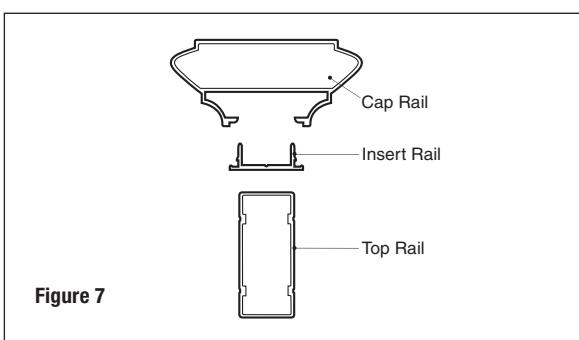

Figure 7
**Step 13 (optional)** Cut the cap rail and cap rail insert to length. (Note: the cap rail will be 1/2" longer than the top and bottom rails.) Center the cap rail insert on top of the top rail and pre-drill seven 1/8" pilot holes. Attach the cap rail insert to the top rail with seven 1/2" long screws. Apply exterior-grade metal construction adhesive to the mating edges of the insert rail. Position cap rail over the insert rail (**Figure 7**). Install by pressing down, starting from one end and working to the other until the cap rail snaps into place. Gently tap with a rubber mallet if needed.